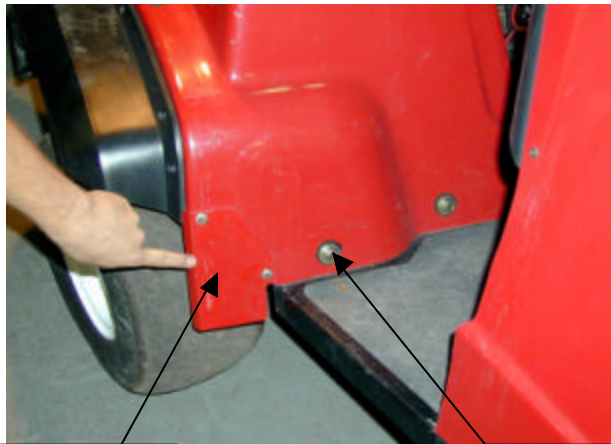

Figure 1
- 2) Remove left and right front filler panels and two front bolts. Make sure that both spacer bushings stay in holes prior to installation of cab. See Figures 1 and 2.
- 20) Attach rear mounts of cab to rear mounts of vehicle using (8) ½-13 X 1¼" bolts, (16) 7/16" flat washers and (8) ½-13 nylock nuts. Bolts to be installed from inside the cab and nuts on the outside.
- 22) Ensure front of cab rests evenly on foot deck and is centered horizontally on vehicle. Install (2) front fender bolts and rubber washers, making sure that the spacer bushings are still behind the cab mount. See Figures 1 and 2.
- 23) Match drill (6) 9/16"Ø holes in the floor deck at the location of the (6) holes in the front cab mounts. Attach front of cab to floor deck using (6) ½-13 X 1¼" bolts, (12) 7/16" flat washers and (6) ½-13 nylock nuts.
- 24) Make sure all installation hardware is secure. Remove (2) lifting ears, ½" bolts and washers. Carefully set roof back into place and secure using the hardware that was removed.
- 28) Install the (2) rear corner filler mats. The mats are installed inside the cab, and friction holds them in place over the inside rear mounts.